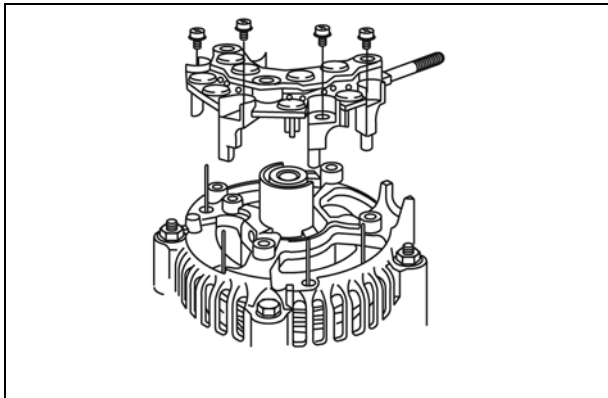

Figure 37
8. Install regulator with screws (**A**, Figure 37).